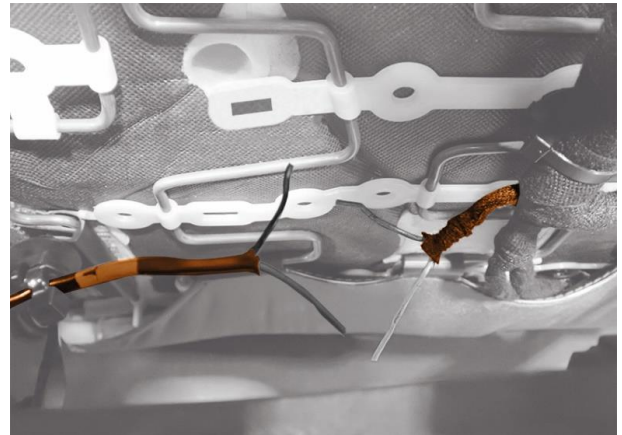

Figure 3 – Strip Wire Conduit and Tape
2. Strip a sufficient length of conduit and cloth tape from the wiring such that the heat-sealing tubes can be inserted (Figure 3).